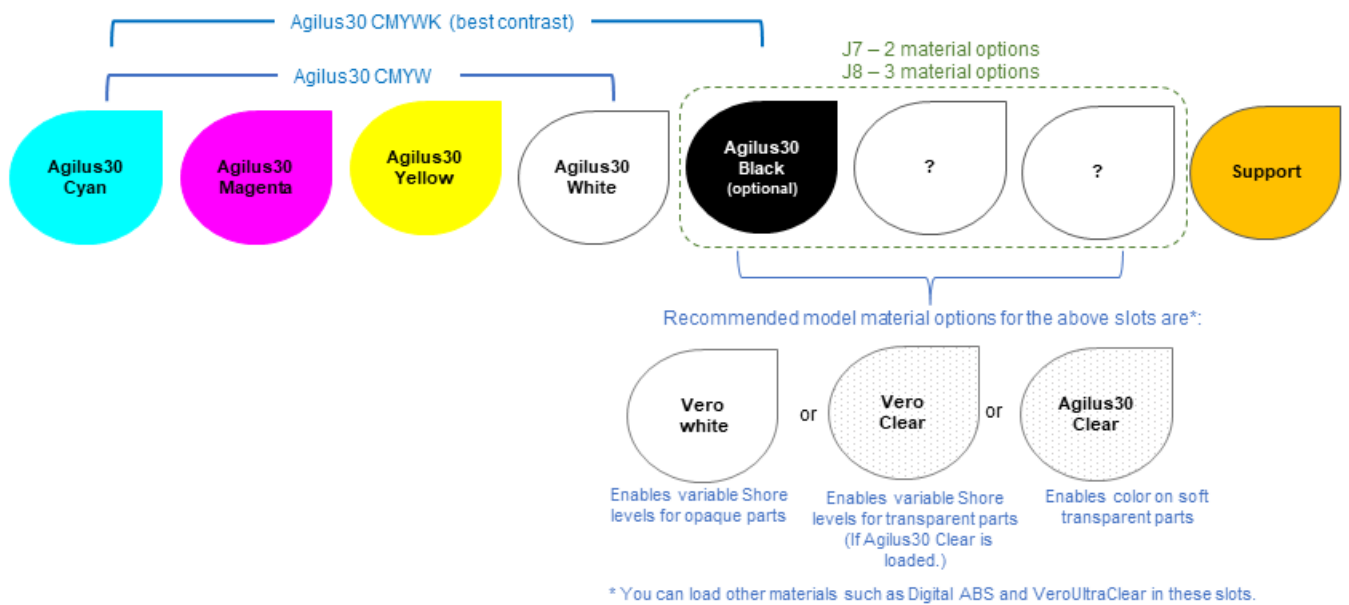

Figure 5: Material options with Agilus30 CMY on J7 and J8 printers
Figure 5 below shows the recommended material loading options when printing with Agilus30 CMY.
- When printing with Agilus30 CMY materials, in addition to the color capabilities, you can also set different Shore A levels for the part. To enable this option, you need to load a Vero white or clear material (see Figure 5). See section G below for more details.